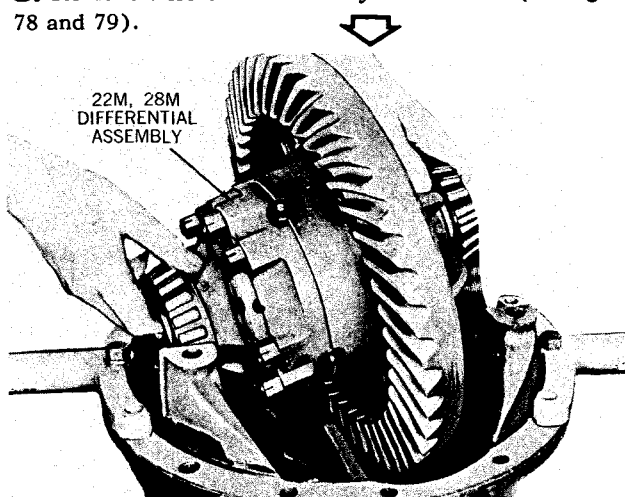

Fig. 78.
- 3.** Remove differential assembly from carrier (see figs. 78 and 79).